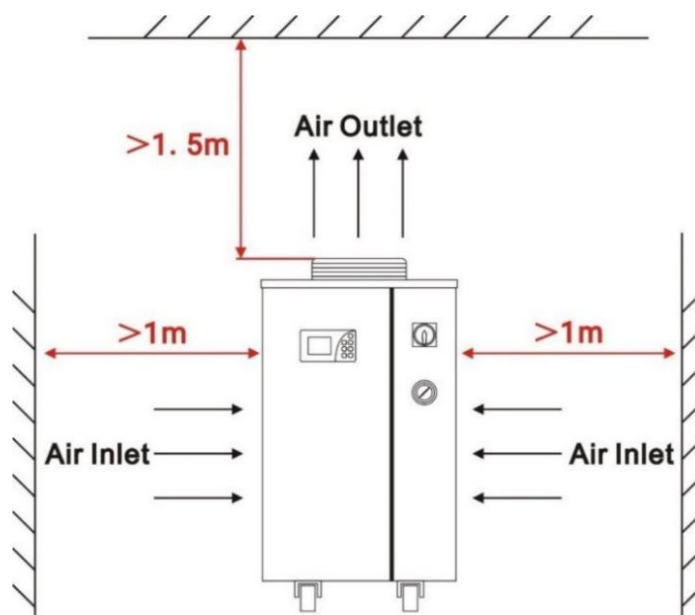

Figure 3: Space Requirements for Chiller Installation
(3)The air outlet of the chiller should be at least 3.5m away from the obstacle, and the air inlet must be at least 1m away from the obstacle (See below diagram) , as shown in Figure 3.